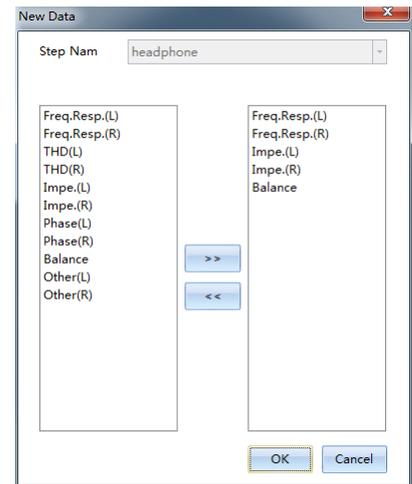

Figure 3.33 Category Management of Data Window
- Add: click the right mouse button in different category positions, to add frequency and test content of corresponding categories. For example, click on the right-click menu of the “Frequency response (L)”, the frequency, average frequency response and curves limits verdict, etc. can be added.
- Category Management: add or delete a data category in the existing data window, as shown in Figure 3.33;